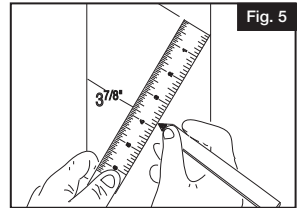

Fig. 5
1. Place a mark $3 \frac{7}{8}$ " below the Handrail lay out line to establish placement of the Handrail bracket mounting fastener (Fig. 5).
- 3.** Attach Handrail loop to the mounting surface using 2 Handrail brackets (Fig. 20), following the instructions in this guide (Fig. 5, 6, 7).